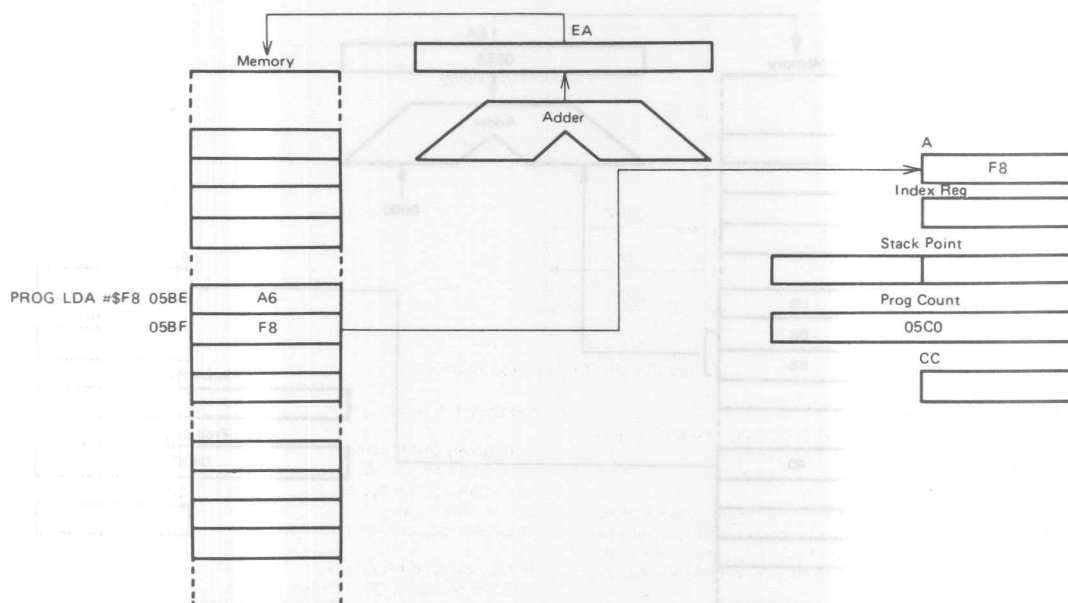

Figure 23 Immediate Addressing Example
Refer to Figure 23. The immediate addressing mode accesses constants which don't change during program execution. Such instructions are two bytes long. The effective address (EA) is the PC and the operand is fetched from the byte following the opcode.